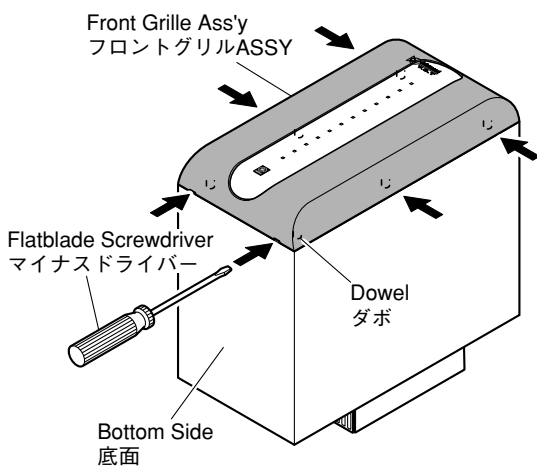

Fig. 1
- a. Using the Flatblade Screwdriver inserted in the gap between the Front Grille Ass'y and the cabinet (bottom side first), push up the Front Grille Ass'y. (Fig. 1)
- a. 底側からマイナスドライバー等を差し込み、フロントグリルASSYを押し上げます。(Fig. 1)